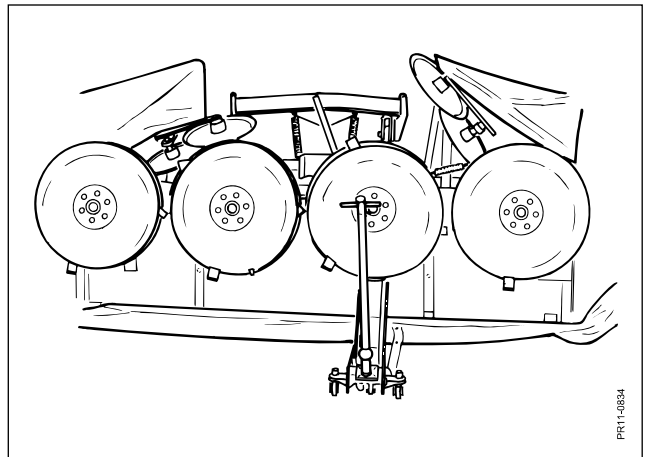

Fig. 5-6
- Fig. 5-6** and lift the machine further until it nearly tips over.